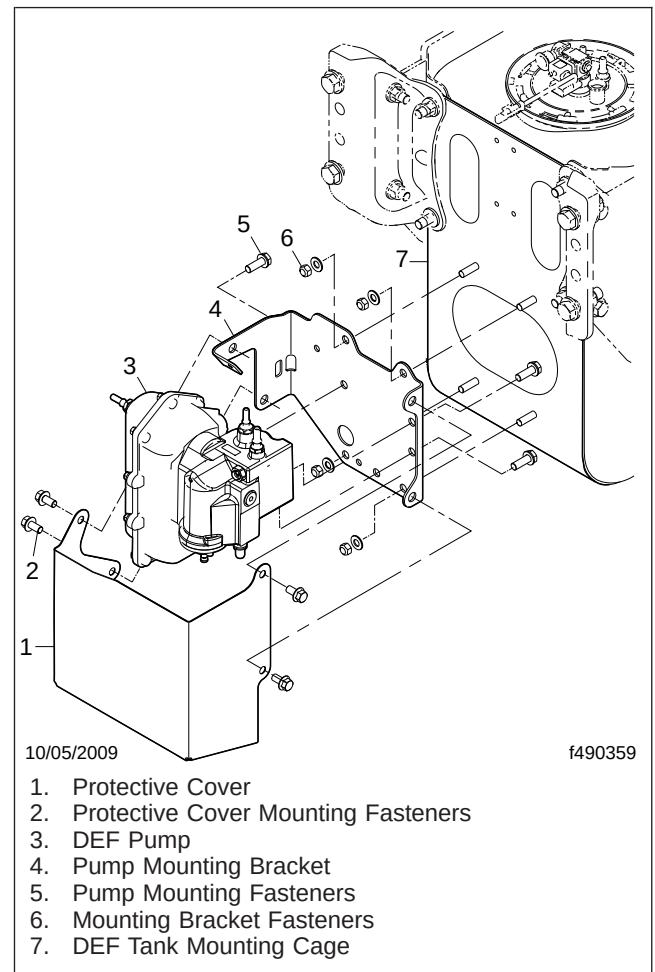

Fig. 2, DEF Pump Removal and Installation
6. Remove the four mounting bolts that secure the protective cover over the pump. Remove the cover. See **Fig. 2**.